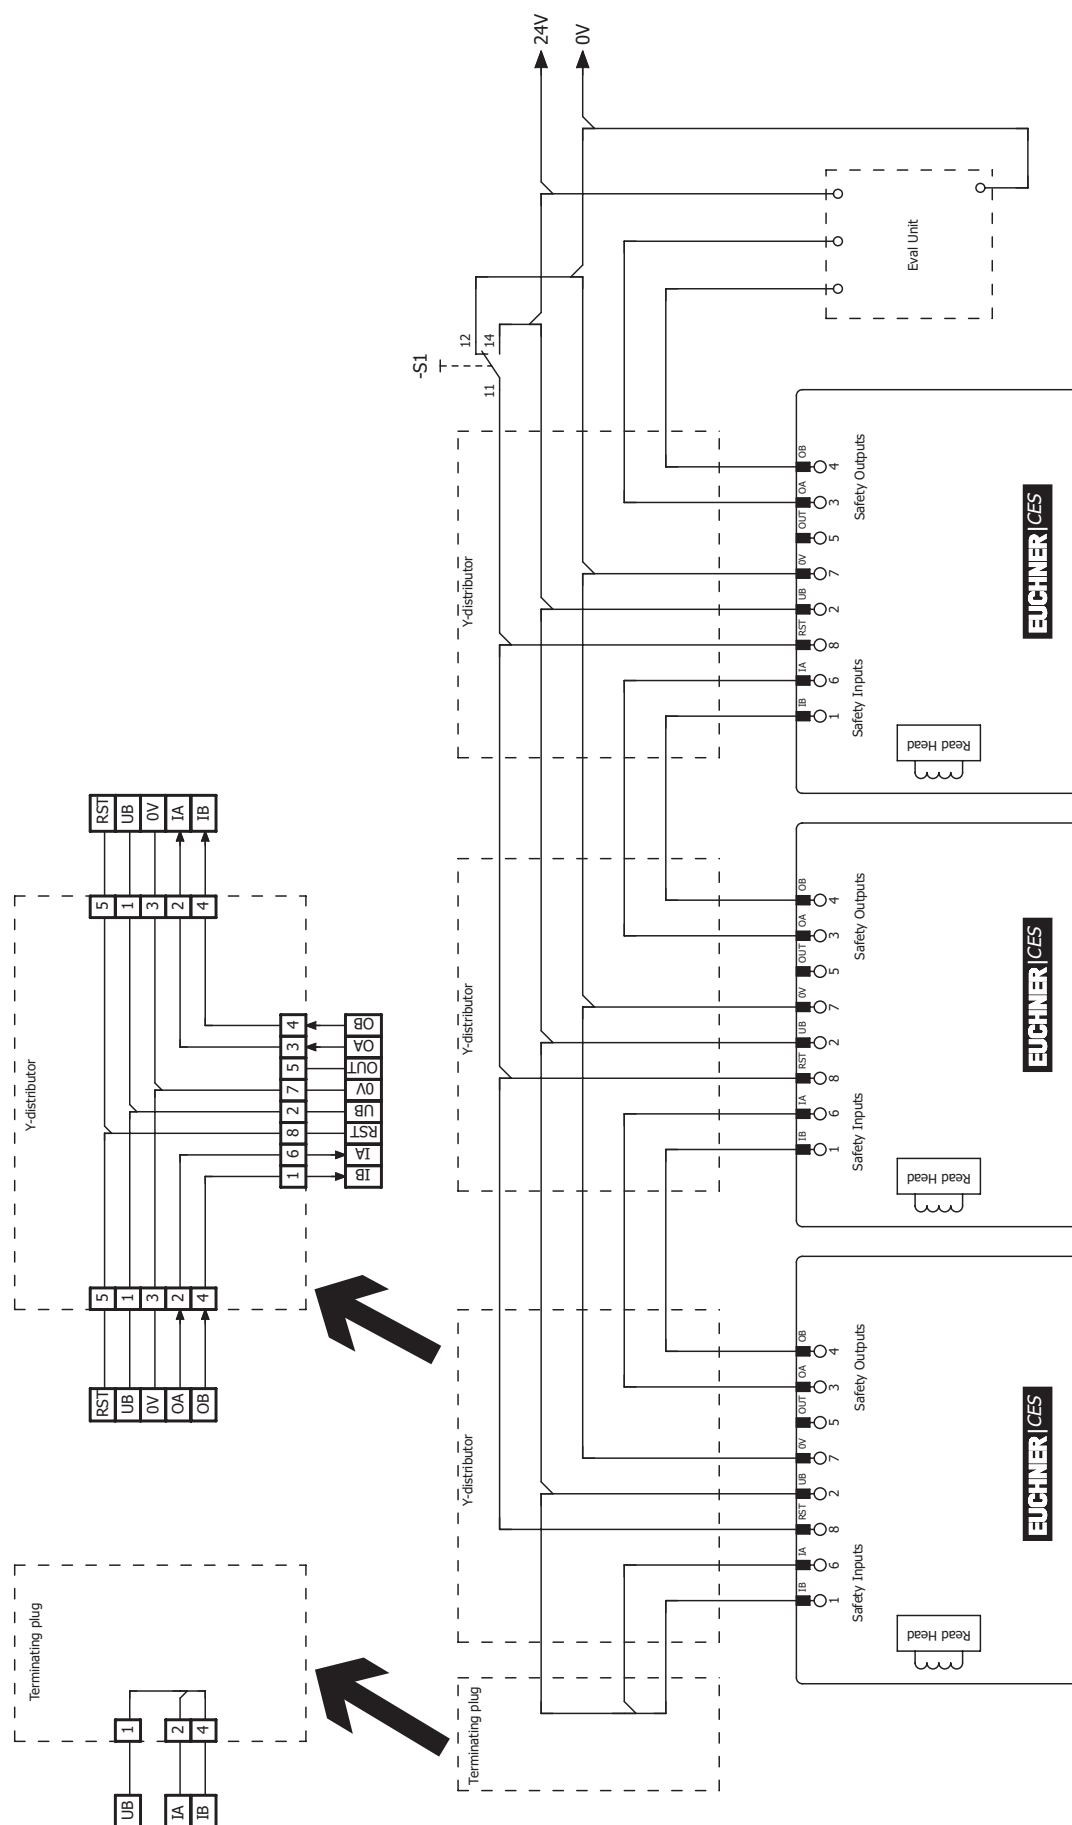

Fig. 4: Connection example for series connection with reset and changeover switch
- › A common signal must be used for all switches in the chain. This can be a changeover switch or the output of a control system. A pushbutton is not suitable because the reset must always be connected to GND during operation (see switch S1 in Fig. 4 on page 22).
The RST input must be connected as shown in *Fig. 4 on page 22* to permit this.